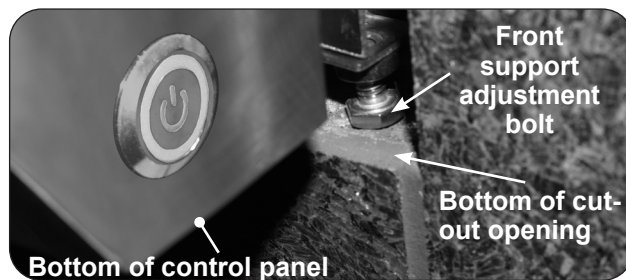

Fig. 27-1 Front support adjustment bolts
5. Rotate the front support adjustment bolts (up or down) until the pizza oven hanger rests flush on the countertop, AND, the adjustment bolts are touching the supporting structure found at the bottom of the cutout (lower support). Use a  $\frac{7}{16}$ " open-end wrench as needed. See Fig. 27-1.